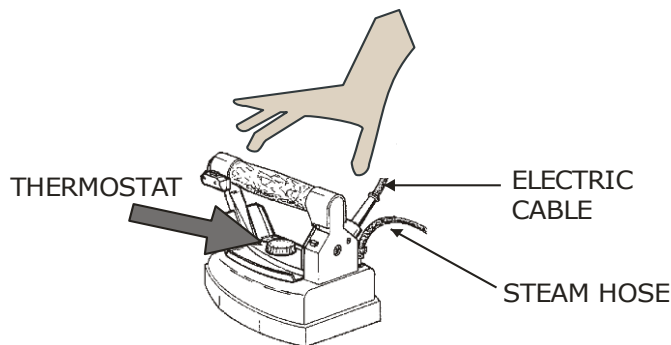

Fig. 3
4. For dry ironing it is possible to adjust the thermostat (fig. 3) on various positions according to the type of fabric (check garment label). For steam ironing set the thermostat on "cotton" or "linen".
6. iron overheating or loss of water from iron (fig. 3);
7. cleaning or washing the iron by using water (fig. 3);